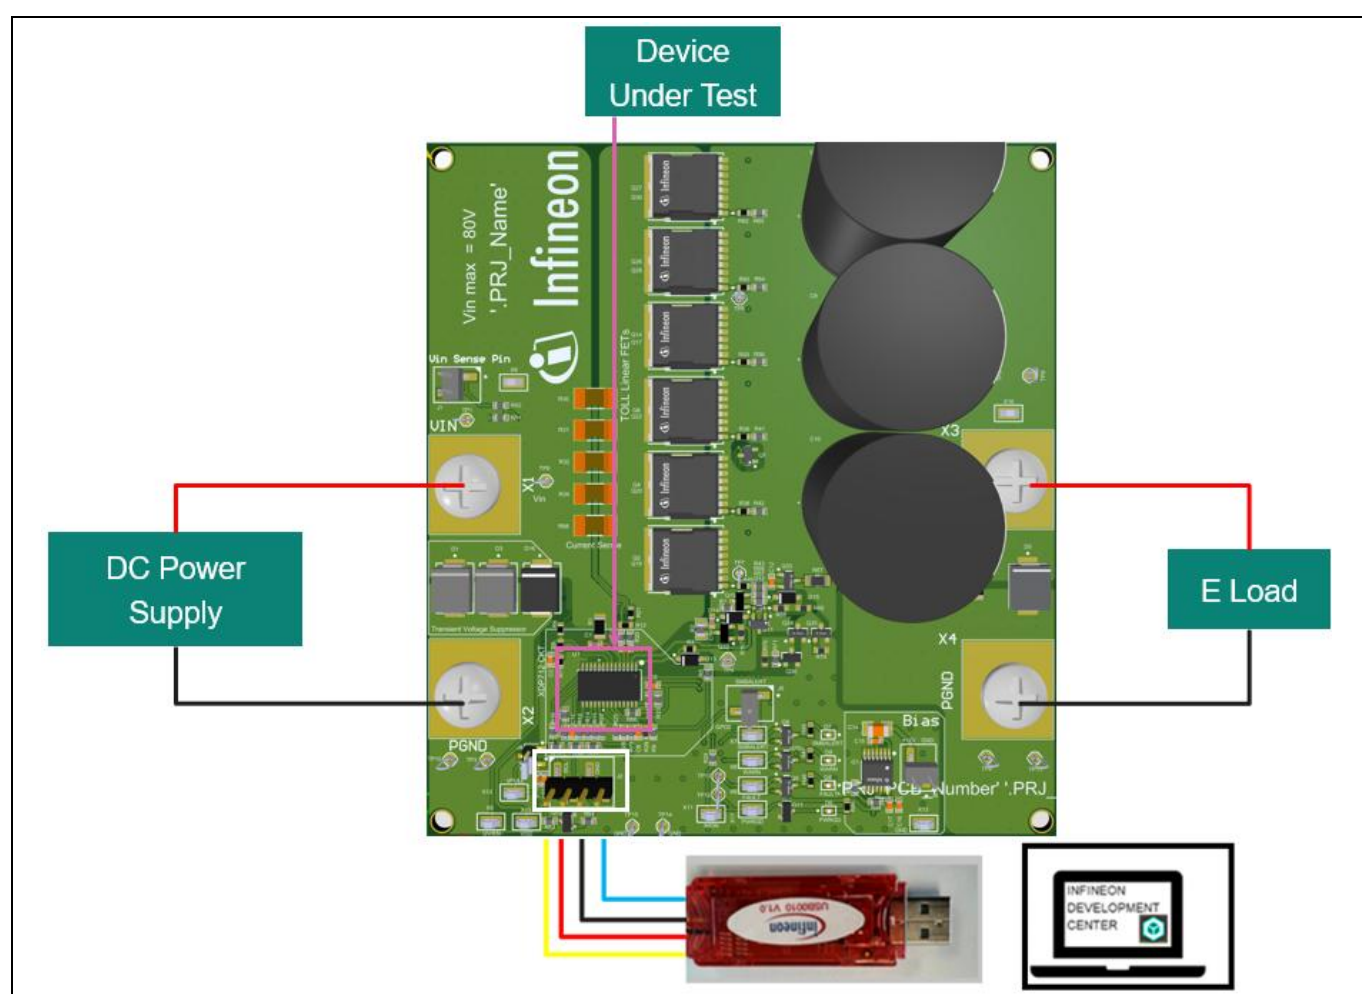

Figure 23 XDP712-001 Reference Board and dongle setup
1. Connect the USB0010 dongle to the XDP712-001 Reference Board as shown in Figure 23